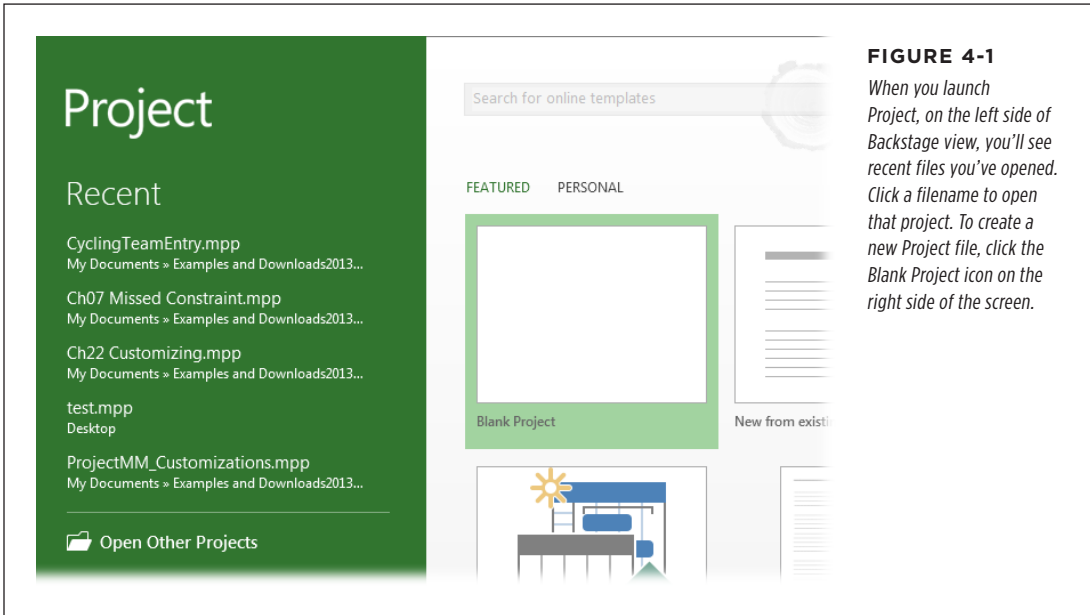

FIGURE 4-1
1. **Launch Project. Then, in Backstage view (page 47), click the Blank Project icon on the right side of the screen (see Figure 4-1).**